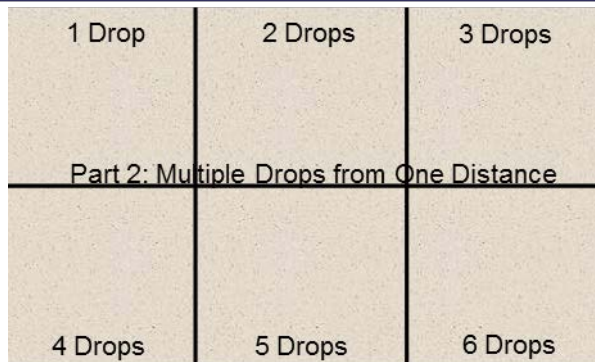

Figure 7: Cardstock setup for part 2.
17. Use the permanent marker to label one edge of the top left area "1 Drop." Label the remaining areas as "2 Drops," "3 Drops," "4 Drops," "5 Drops," and "6 Drops," as shown in Figure 7.